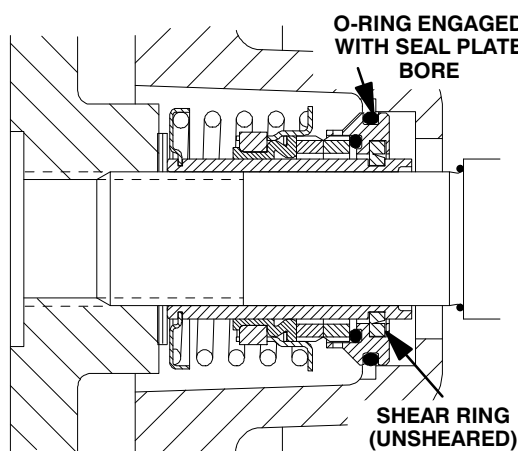

Figure 9. Seal Partially Installed
Clean and inspect the impeller as described in **Impeller Installation and Adjustment**. Install the set of impeller shims (4) provided with the seal and install the impeller key (33) in the shaft keyway. Position the impeller keyway over the impeller key and press the impeller onto the shaft until it is seated against the seal (see Figure 9).